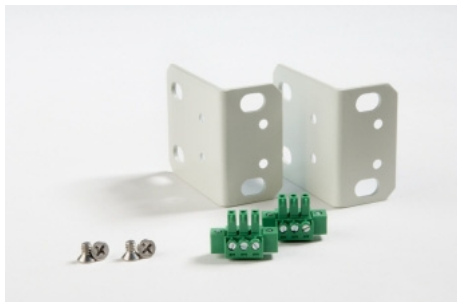

Figure 3: IDU-NetStream RM Package contents - the mounting kit and DC power plugs
- Two DC power plugs for power cables - see Figure 3 below